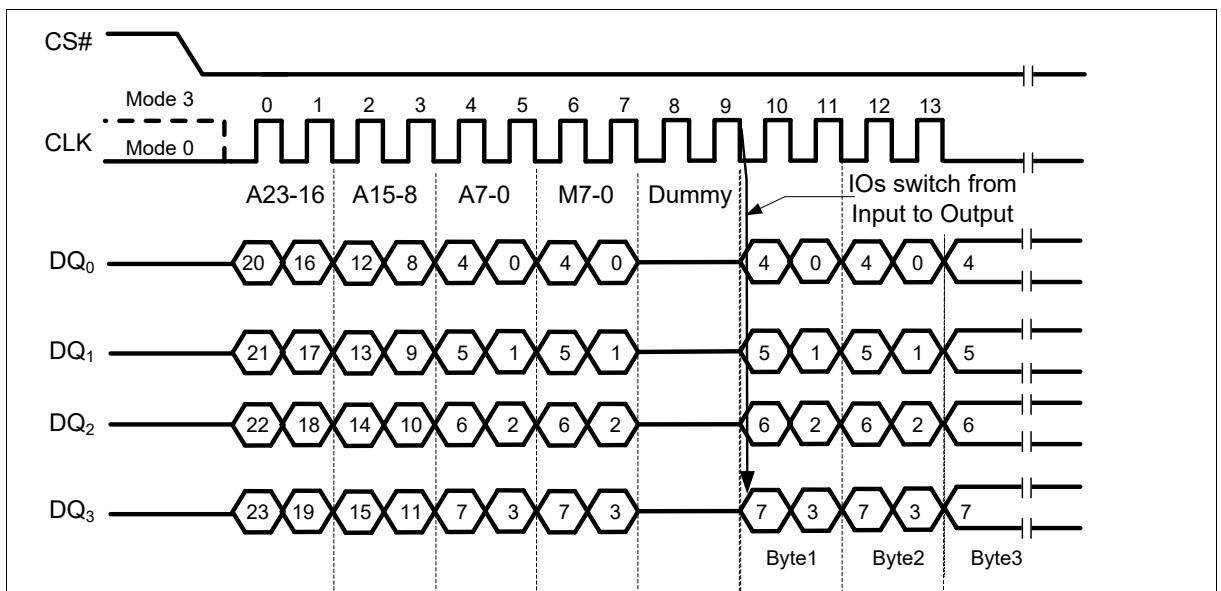

Figure 27 Word Read Quad I/O Instruction (Previous instruction set M5-4 = 10, SPI Mode only)
If the “Continuous Read Mode” bits M5-4 = (1,0), then the next Fast Read Quad I/O instruction (after CS# is raised and then lowered) does not require the E7h instruction code, as shown in Figure 27. This reduces the instruction sequence by eight clocks and allows the Read address to be immediately entered after CS# is asserted low. If the “Continuous Read Mode” bits M5-4 do not equal to (10), the next instruction (after CS# is raised and then lowered) requires the first byte instruction code, thus returning to normal operation. It is recommended to input FFh on DQ0 for the next instruction (8 clocks), to ensure M4= 1 and return the device to normal operation.